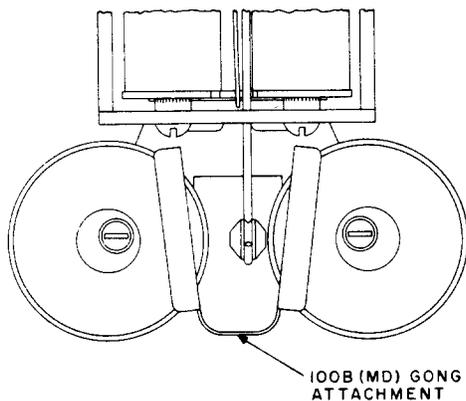

Fig. 3—100B (MD) Gong Attachment on B-Type Ringer
- (b) The 100B (MD) gong attachment is installed as shown in Fig. 3.
- (c) If the 100B (MD) gong attachment is used on the ringer in a 531-type (MD) subscriber set, the open end of the attachment must be located in the opposite direction to the one shown in Fig. 3 to prevent interference between the attachment and the subscriber set cover.